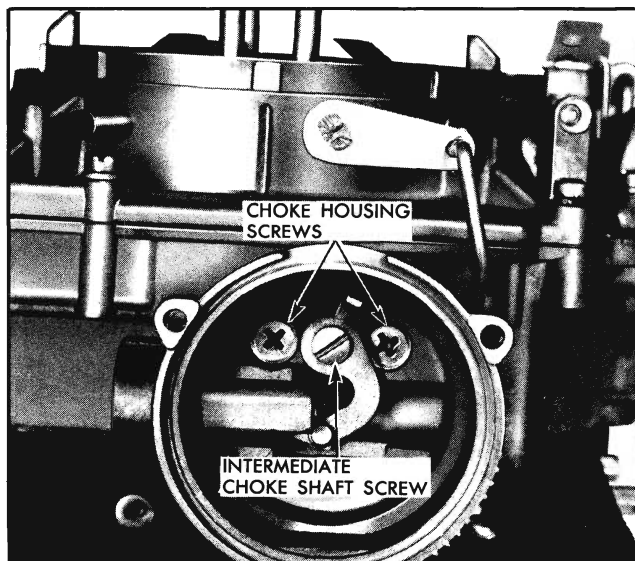

Fig. 6B-57 Location of Choke Housing Screws
14. Detach piston and link assembly from intermediate choke shaft by removing screw (Fig. 6B-57).
16. Detach choke housing by removing two attaching screws (Fig. 6B-57).